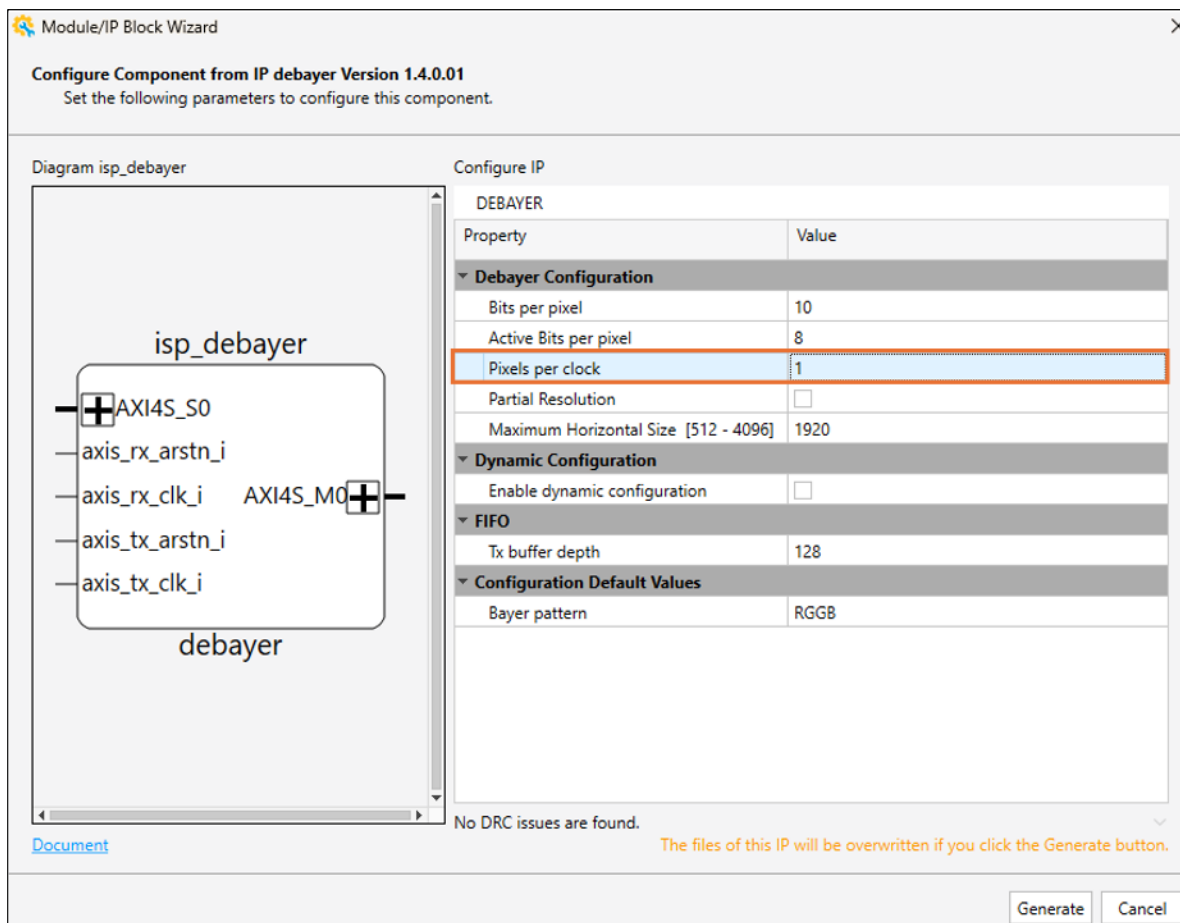

Figure 7.7. Debayer Configuration
2. Under the **DEBAYER** setting, set the **Pixels per clock** to 1 (Figure 7.7).